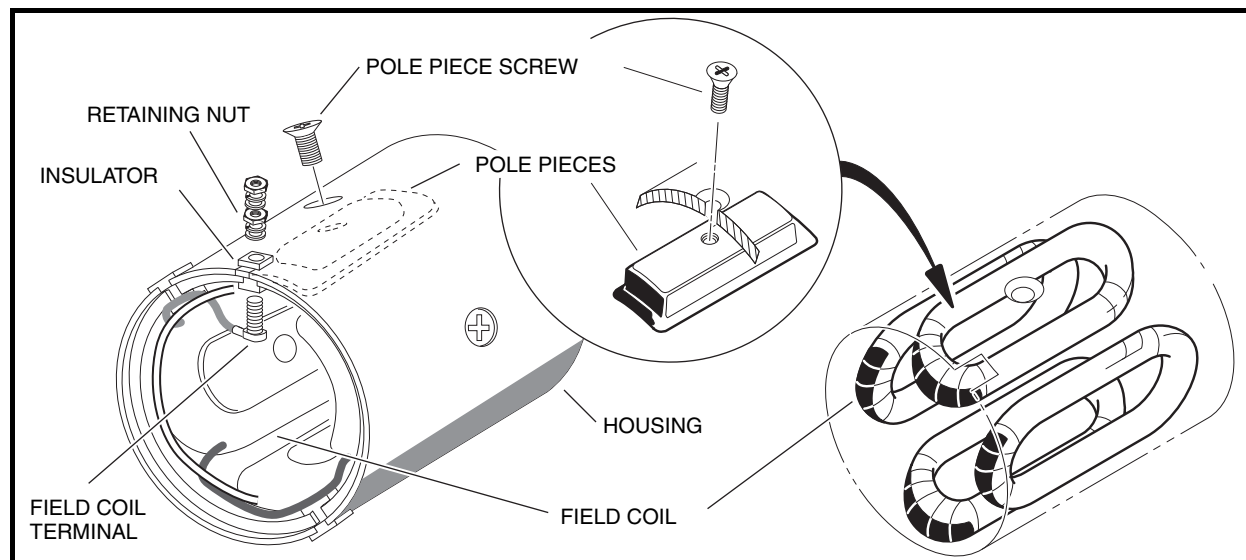

Figure 12-10 Field Coil Removal
1. Remove the retaining nut from each field coil terminal and slide the insulator out of the slots in the housing. Remove the four pole piece screws from the housing. Remove the four pole pieces from inside the housing. Remove the field coils from the inside of the housing (Figure 12-10, Page 12-6). See following NOTE.
**NOTE:** Do not remove the insulators or the field coils unless an electrical test indicates that it is necessary (Figure 12-10, Page 12-6). See Test Procedure 8, Section 11, Page 11-19.
2. After the insulators are seated in the slots, install the threaded terminals through the wire connectors and then through the insulators. Install a flat washer, lockwasher and nut onto each threaded terminal on the outside of the housing. Tighten nuts to 47.5 in-lb (5.4 N·m) (**Figure 12-10, Page 12-6**). **See following CAUTION.**
3. Install the four pole pieces into the housing. Use the four screws to secure pole pieces to the inside of the housing to retain the field wires. Tighten screws to 9 ft-lb (12.2 N·m) (**Figure 12-10, Page 12-6**).